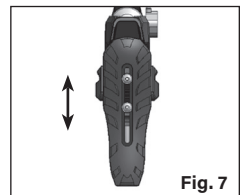

Fig. 7
- Loosen the two set screws using a $\frac{3}{32}$ Allen head wrench (Fig. 7).